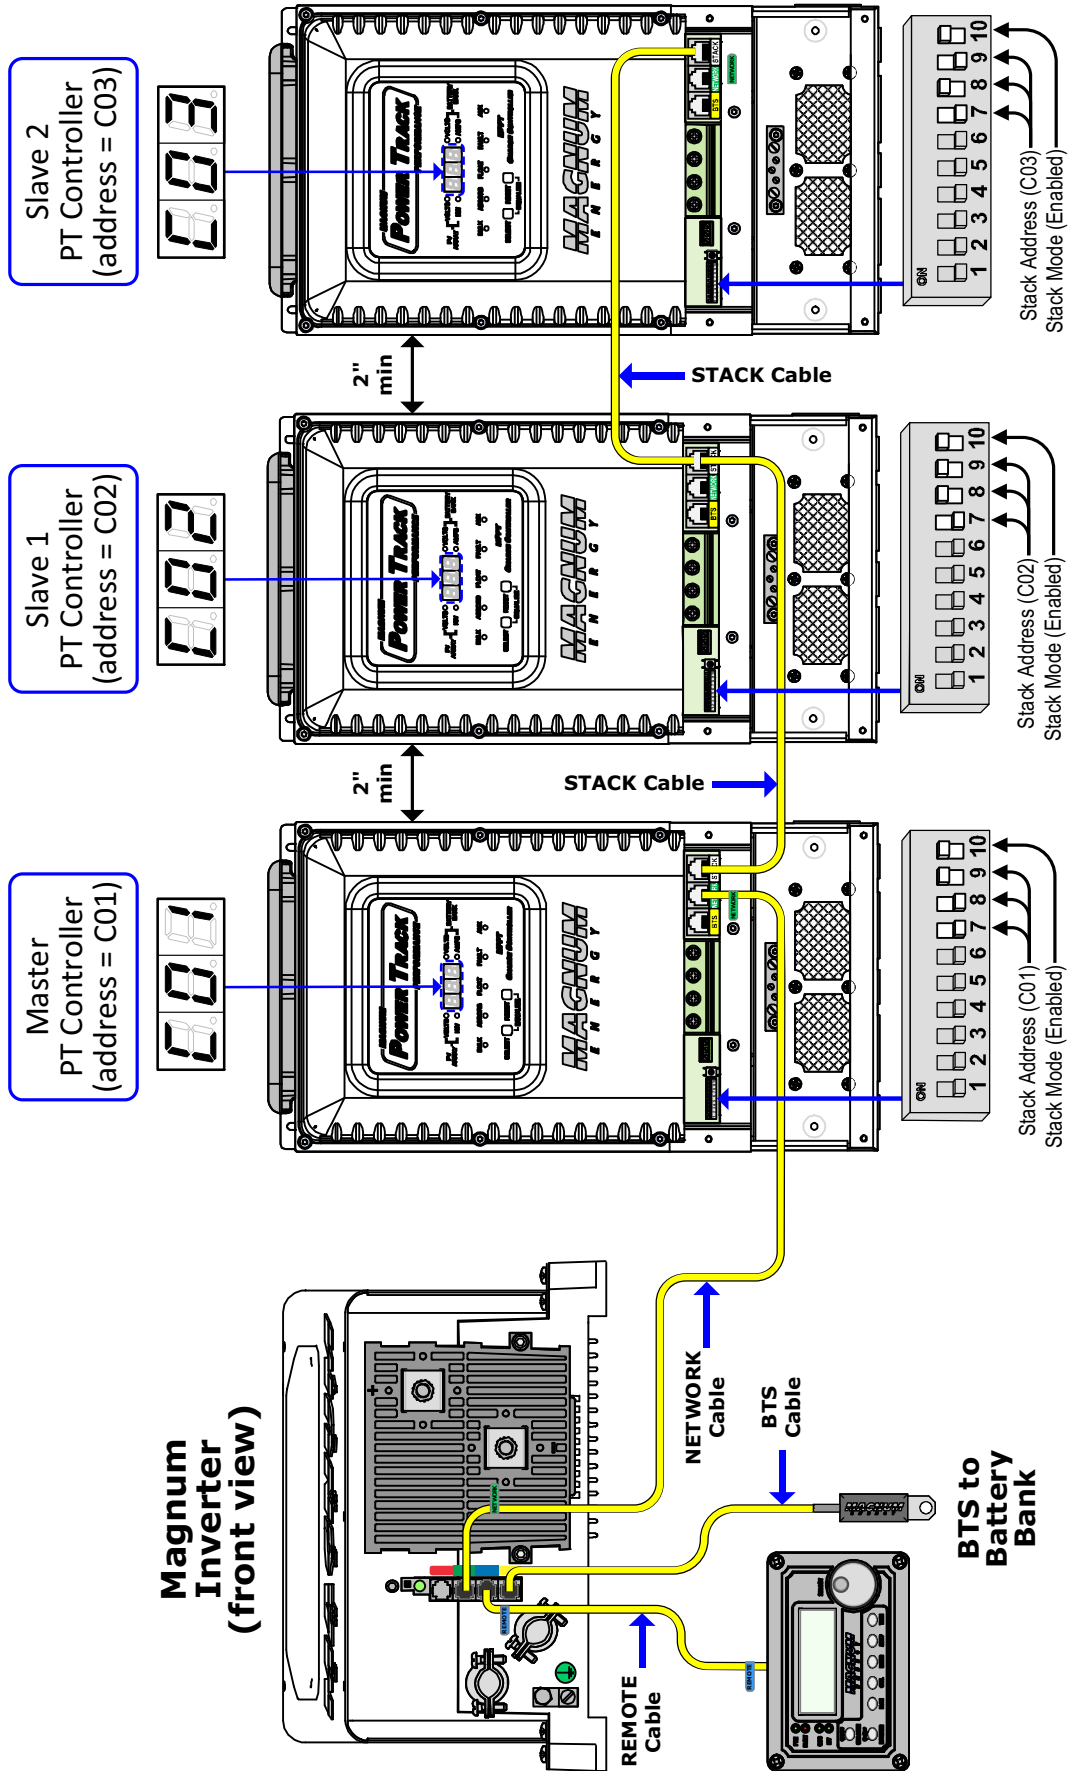

Figure 2-26, Stacking Multiple PT Controller's
3. Each controller must be connected to each other using a Stacking cable - connected in a daisy chain style as shown in Figure 2-26.
6. One of the controllers in the stacked configuration must be networked to a Magnum inverter, and this inverter must be connected to a remote (refer to Figure 2-26 and Table 2-10).
7. DIP switch 10 must be enabled (UP) on each stacked controller (see Figure 2-26).
8. Each PT controller must have it’s own unique network address (from C01 to C07). Use DIP switches 7, 8, and 9 to set the network address on each controller [refer to Figure 2-26 and Section 3.1 (Switches 7, 8 & 9)]. *Note: When controllers are networked together, the controller configured with the lowest network address becomes the master controller and all other controllers become slave controllers, and therefore follow the master.*
All wiring within the PT controller’s wiring compartment must have insulation rated for the highest voltage within this compartment. When wiring the network cable and stacking cables from one controller to another (as shown in Figure 2-26), ensure the supplied yellow communication cables with 300-volt rated insulation are used (see Section 2.10 for more information on these cables).